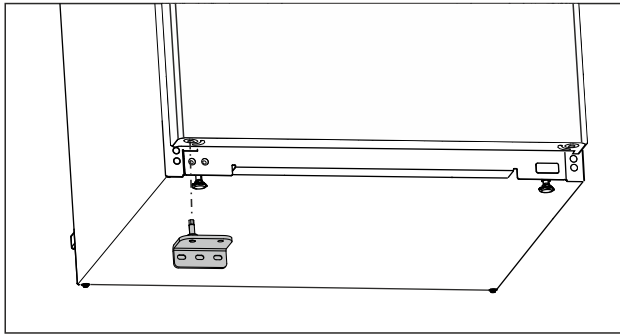

Fig. 20
- ▶ Insert the lower swap bearing block on the opposite side. (see Fig. 20)